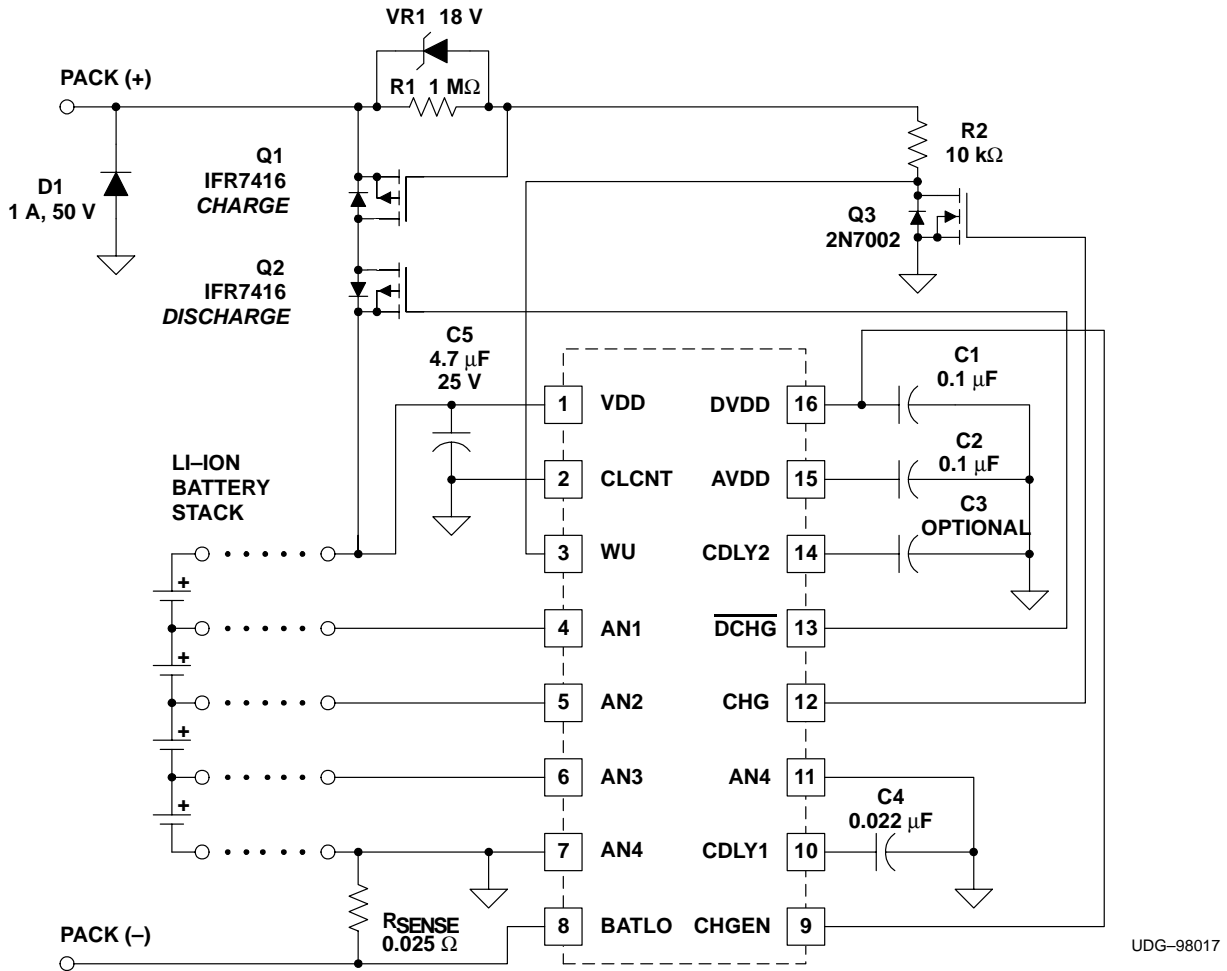
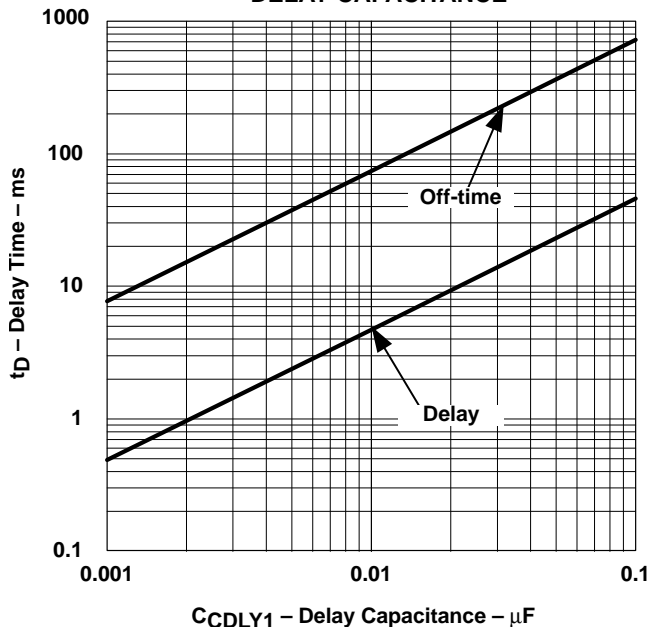

Figure 2. Four-Cell Lithium-Ion Protector Application Diagram
Figure 4
Figure 2 shows a four-cell protector with optional components to protect the charge FET from excessive gate-to-source transients. In this application, the Zener diode VR1 and the resistor R2 are optional. They protect the MOSFET Q1 from excessive open-circuit charger voltage. Diode D1 protects MOSFET Q2 from inductive kick during turn-off.
The use of a small N-channel level shifter (Q3 in the application diagrams) allows the IC to interface with the high-side charge FET (Q1), even in the presence of a runaway charger. Only the drain-source voltage rating of the charge FET limits the charge voltage that the protection circuit can withstand. The wakeup (WU) pin is designed to handle input voltages greater than VDD, as long as the current is limited. In the examples shown, the charge FET's gate-source resistor (R1) provides this current limiting. Note that in Figure 2, a resistor and zener (R2 and VR1) have been added to protect Q1 against any possibility of a voltage transient exceeding its maximum gate-source rating.
The first-tier threshold is 150 mV nominal, corresponding to 6 A using a .025-Ω sense resistor as shown in the examples of Figure 1 and Figure 2. If the pack-discharge current exceeds this amount for a period of time, determined by the capacitor on the CDLY1 pin, it then enters the hiccup mode. The first-tier hiccup duty cycle is fixed at approximately 6%, minimizing power dissipation in the event of a sustained overload. The absolute on and off times of the discharge FET (Q2) are controlled by the CDLY1 capacitor. A curve relating the delay (on time) to this capacitor value is shown in Figure 4. The off time is approximately 17 times longer than the on time.
In the examples shown in Figure 1 and Figure 2 (with CDLY1 = .022 μF), the first-tier overcurrent on time is approximately 10 msec, while the off time is approximately 170 msec, resulting in a 5.9% duty cycle for currents over 6 A (but less than 15 A). If no CDLY2 capacitor is used, the second-tier on time is less than 200 μsec (assuming no stray capacitance), resulting in a duty cycle of about 0.1% for currents over 15 A. If CDLY2 = 22pF, the typical on time for currents exceeding 15 A is approximately 800 μsec, resulting in a duty cycle of 0.5%.
In the case of a short circuit, the di/dt that occurs when the discharge FET is turned off can result in a significant voltage undershoot at the pack output due to stray inductance. This undershoot can potentially exceed the breakdown voltage rating of the discharge FET. A clamp diode (D1 in Figure 1, Figure 2, and Figure 3), or a capacitor across the pack output, protects against this possibility. A diode also provides protection from a reverse-polarity charger.